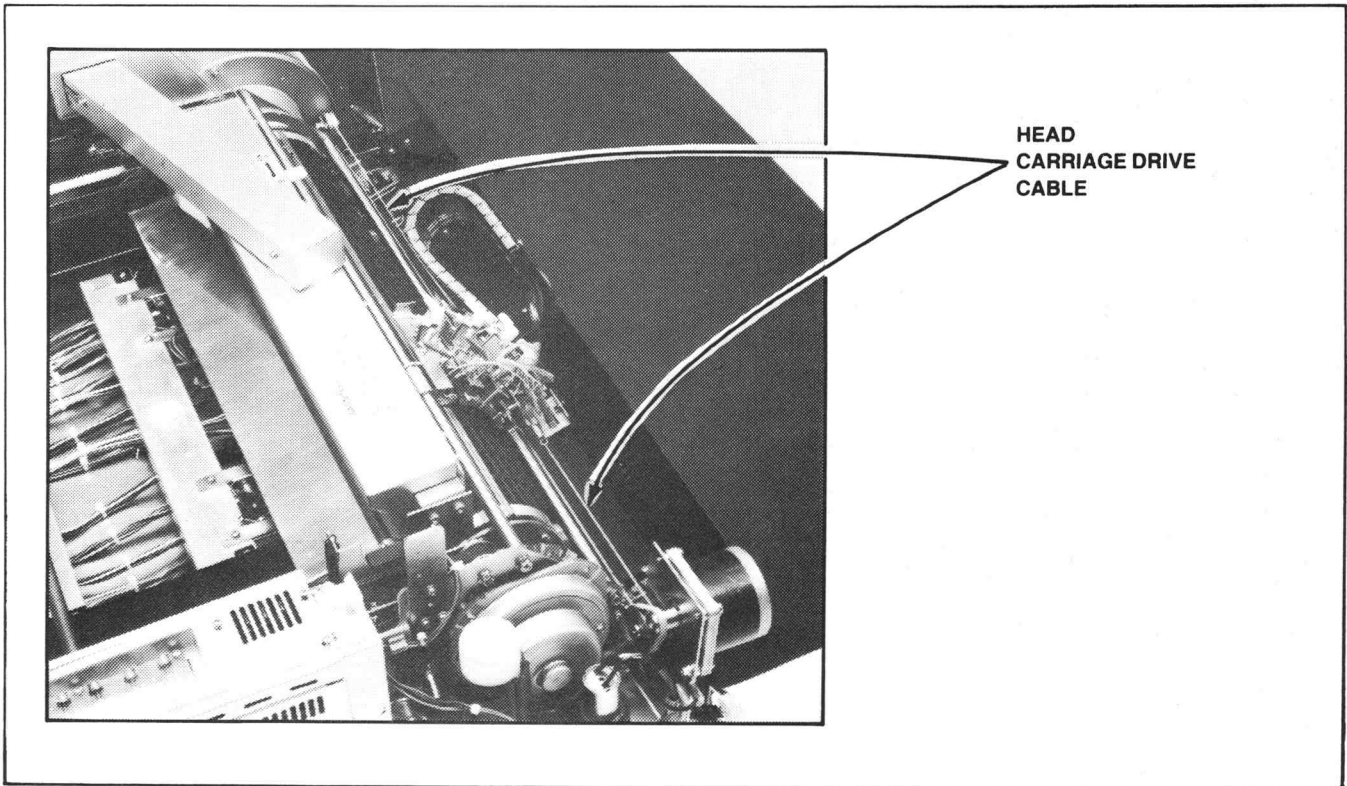

Figure 7-9a. Head Carriage Drive Cable Removal.
3. Manually position the ink-jet head carriage in the middle of its travel. See Figure 7-9a.